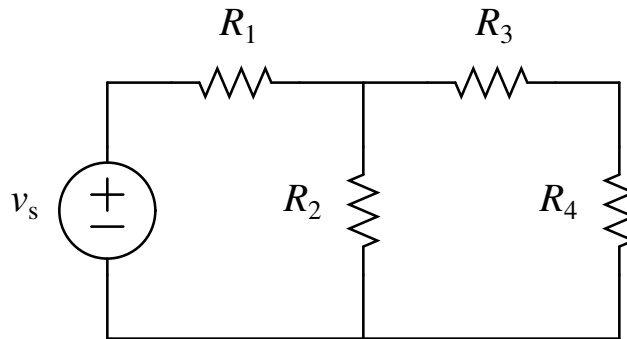

Figure 5. Circuit with five elements, three essential branches, four nodes, two essential nodes, two meshes, and three loops.
2. Build a model of the circuit shown in Fig. 5.
In Section 6.5 Kirchhoff's Laws, you will use the same circuit from Fig. 5, except this time you will measure *current* through four resistive elements. For this pre-laboratory exercise, you will use Tinkercad and the same circuit you constructed in the above pre-laboratory exercise 4.1. Since measuring current requires placing the multimeter in series with the branch whose current you are measuring, you will be doing some significant re-wiring in your model.